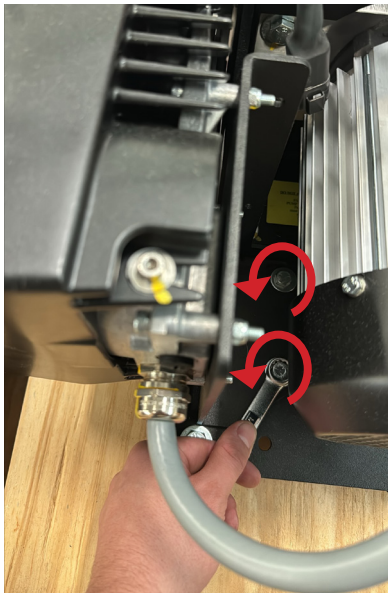

Figure 60
1. Using a ½-inch wrench, loosen and remove the bolts that attach the inverter mounting bracket to the baseplate (see Figure 60). Set the inverter off to the side, taking care to ensure that the slack in the chord connecting the motor to the inverter is not completely taken out. Save the bolts, as you will need them to re-assemble the unit.
10. Re-attach the inverter mounting bracket to the baseplate (see Figure 60). Apply Loctite 243 (or equivalent) to the 2 bolts that attach the inverter mounting bracket to the baseplate and torque to 13 ft-lbf (17.6 Nm).